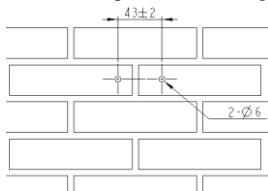

Fig 2-13 Drill the wall mounting holes
1) Drill two  $\phi 6$  holes with 43mm space distance. Fig 2-13 as below: